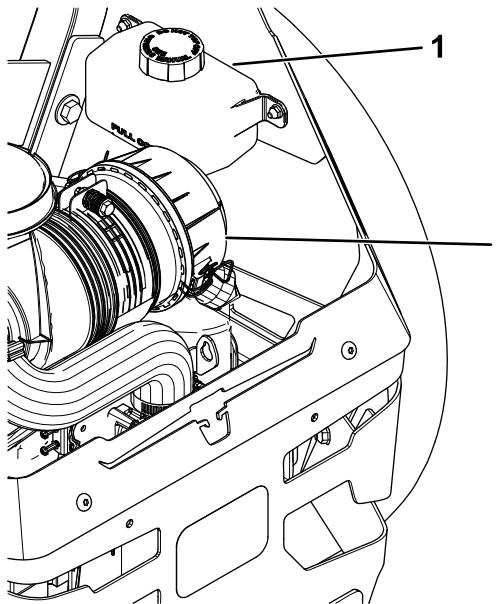

Figure 85
2. Check expansion reservoir and if necessary add Toro® HYPR-OIL™ 500 hydraulic fluid to the FULL COLD line (Figure 85).